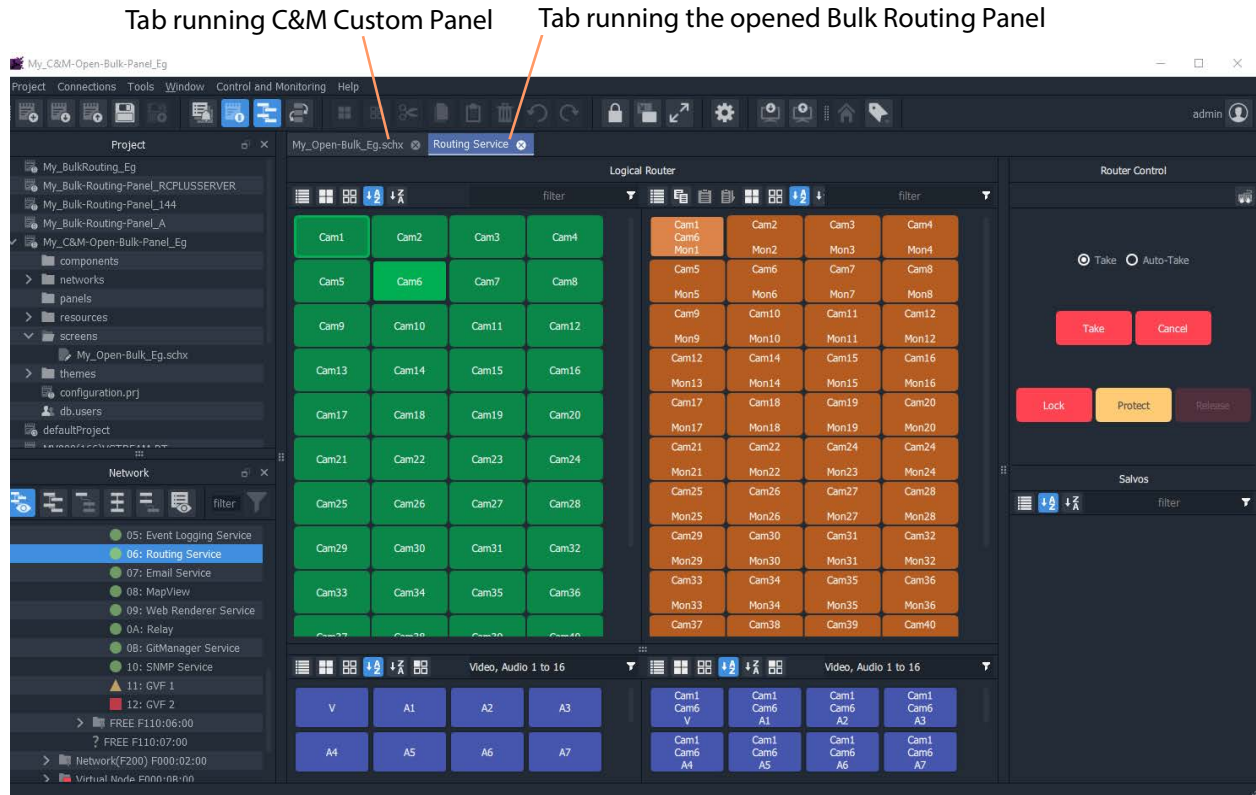

Fig. 12-96: Bulk Routing Panel Opened in a Tab
- 2 Click on the **Button** widget to open a new tab containing an Bulk Routing Panel. See Figure 12-96.